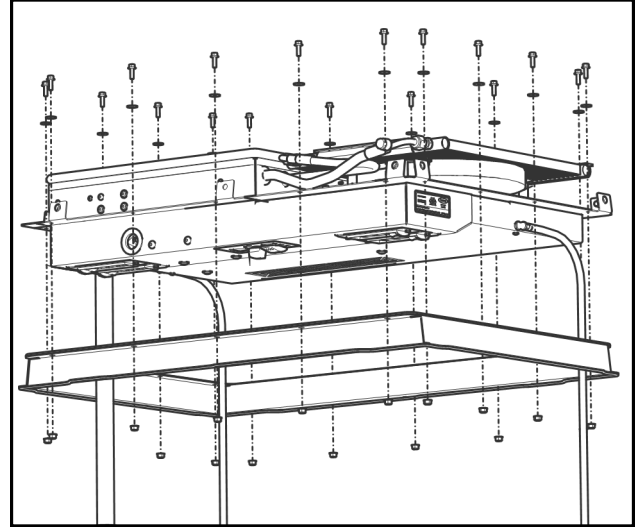

Fig. 3.1 (Attach Roof Adapter Ring)
- 3.1** Orient the Roof Adapter Ring as shown, with the larger flange on the bottom. With assistance, place the air conditioner unit into the ring with the Power Wire Harness and drain tubes inside the ring. See Figure 3.1.